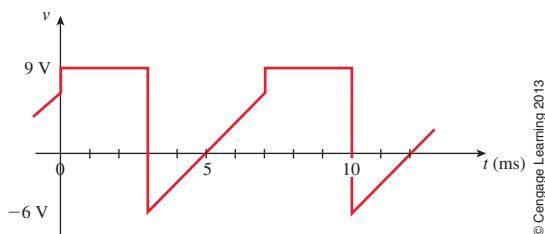

FIGURE 15-77
- Determine the period and frequency for the waveform of Figure 15-77.